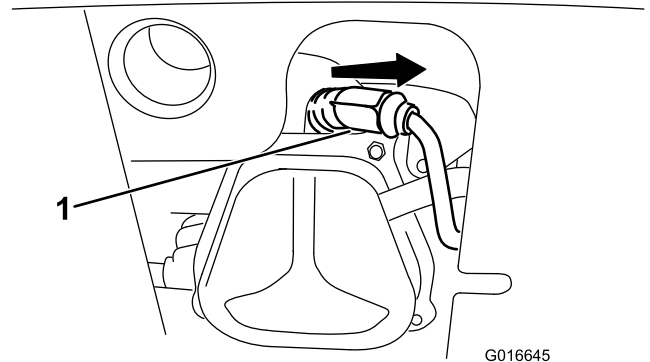

Figure 36
1. Remove the boot (Figure 36).